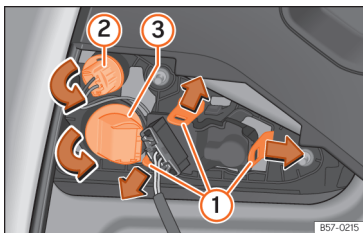

Fig. 206 Remove the bulb holder.
- Unlock the securing tabs from the bulb holder >>> **Fig. 206** ①, or turn the bulb holder to the left ② and ③.